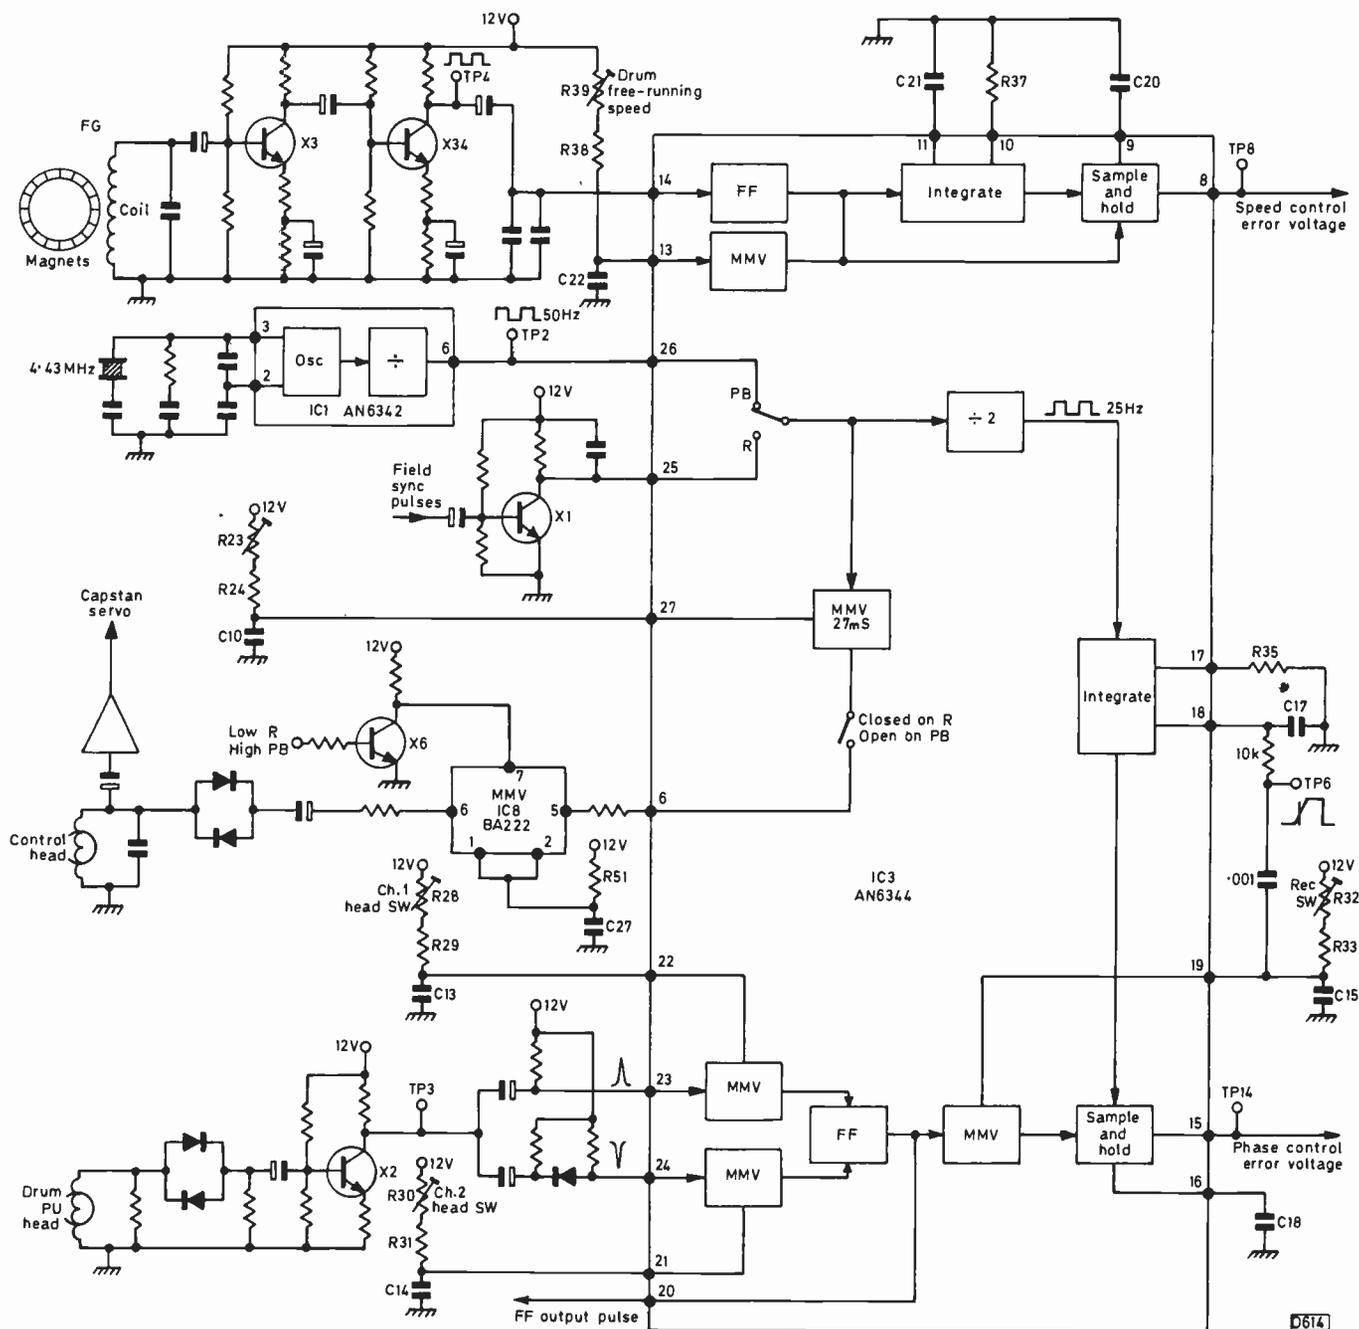

Fig. 81: The servo systems that provide drum speed and phase control.
Now for a closer look at the drum servo system, see Fig. 81. First the speed control loop. The printed FG coil has 60 poles and thus produces a 1.5kHz signal when the rotational speed is correct. The circuit between pins 14 and 8 of IC3 converts the squarewave at the collector of X34 to a voltage which rises if the frequency increases. We won't bother with a timing chart for this process: basically it relies upon the constant width pulses from the monostable multivibrator (MMV) being added to the output, which varies with speed, from the flip-flop (FF), the result being a series of pulses whose width varies with speed. These are integrated, the length of the ramp thus obtained altering with the speed since the slope is constant. A pulse from the MMV samples this ramp, the result being that the output voltage occurs at a position on the ramp depending on the speed of the drum. R39, R38 and C22 form the MMV time-constant, C21 and R37 provide the integration, while C20 acts as the storage capacitor for the sample-and-hold circuit.